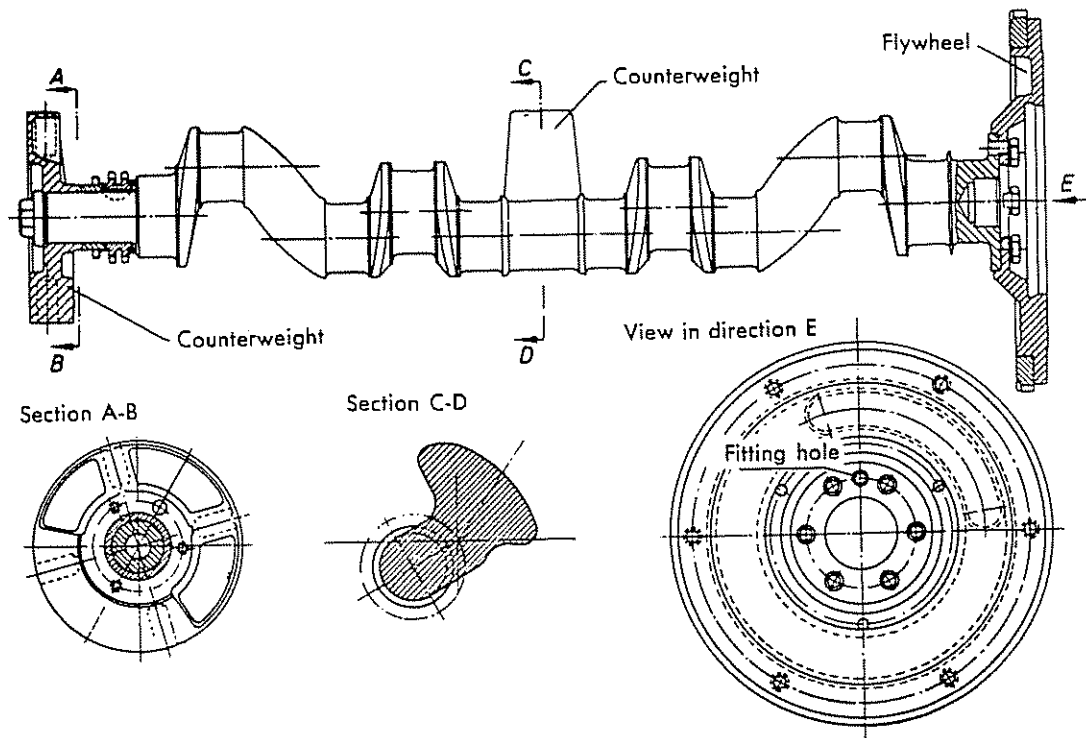

Fig. 03-5/10
1. Drill the balancing holes at the circumference on the front counterweight of the crankshaft in a radial direction using a 14 mm ϕ drill (Fig. 03-5/10). The maximum bore depth is 30 mm.